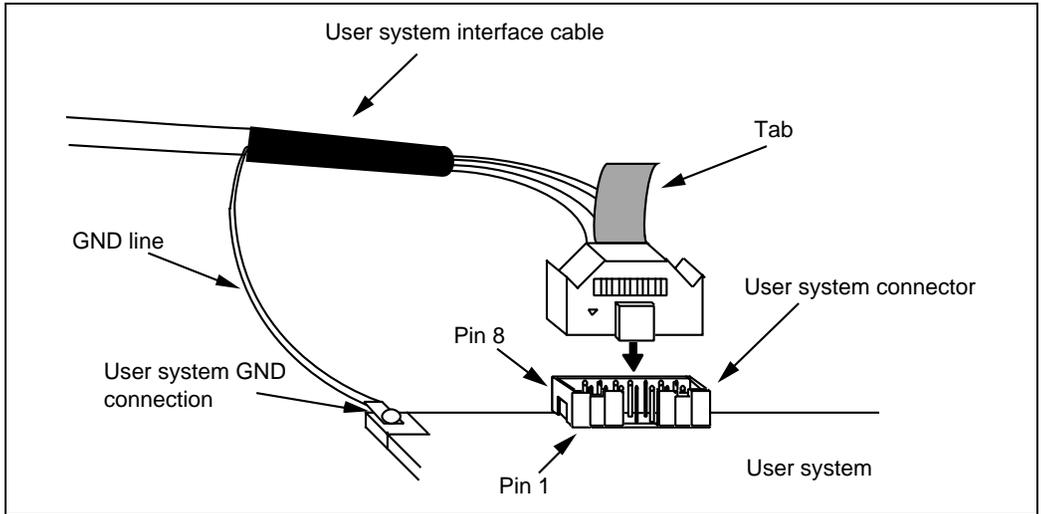

Figure 3.4 Connecting the User System Interface Cable to the User System
- (2) The pin arrangement of the connector is shown in section 1.3 in the additional document, Specific Guide for the H8S/xxxx E10A Emulator.
- (3) Figure 3.4 shows how to connect the user system interface cable to the user system. Connect the ground line of the cable to the user system ground. The end of the ground line has a hole having a diameter of 3 mm, and therefore, when the ground line is screwed to the user system, the screw diameter must be 3 mm.